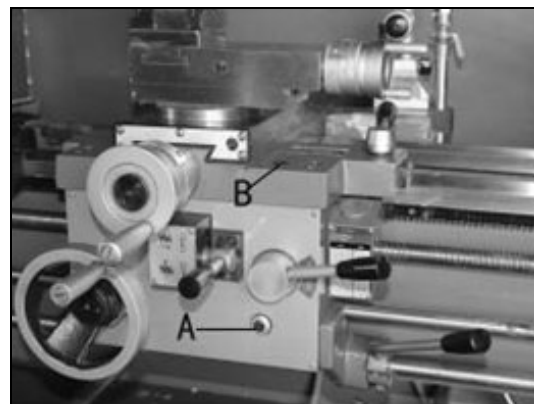

Figure 6-3
5. **Apron** – Oil must be up to indicator mark in oil sight glass (A, Figure 6-3). Top off with Mobil DTE® Oil Heavy Medium. Fill by removing oil knurled plug (B, Figure 6-3). After the first three months of operation, drain oil completely (drain is on bottom of apron) and refill with Mobil DTE® Oil Heavy Medium or equivalent, to the indicator line. Then, change oil annually.